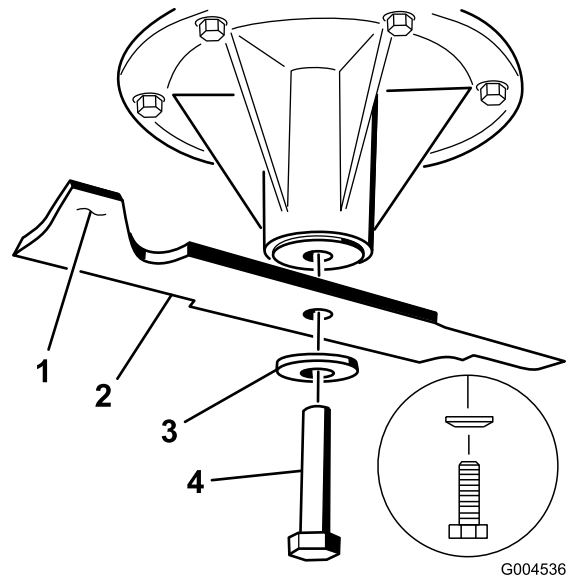

Figure 95
the sail area only (Figure 95). Repeat this procedure until the blade is balanced.
1. Install the blade onto the spindle shaft (Figure 95).
2. Install the spring disk and blade bolt. The spring disk cone must be installed toward the bolt head (Figure 95). Torque the blade bolt to 85-110 ft-lb (115-150 N-m).